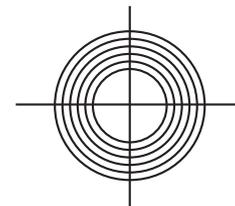

Figure 5
4. Insert the spring into the centering flanges (Fig. 5). If adding the STABILASTIC telescopic spring was an afterthought, split flanges can be arranged to avoid disassembly. However, this method should be the exception.